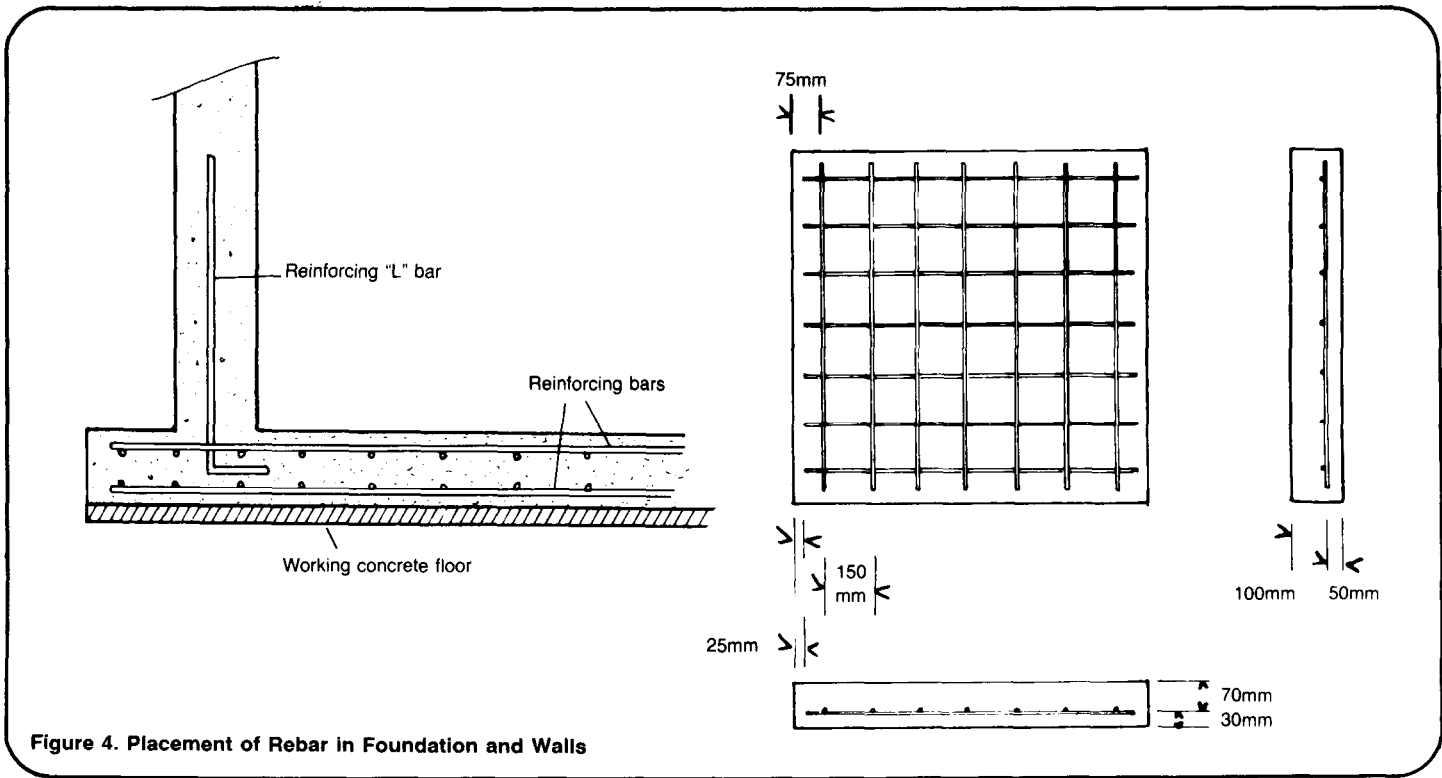

Figure 4. Placement of Rebar in Foundation and Walls
- Place reinforcing rods in the forms. For best results, lay the rod for the floor in a grid pattern as shown in Figure 4. The cross bars should be long enough to cross the entire length of width of the floor and extend at least 300mm into the wall. The reinforcing rods should be bent to fit into the wall forms to a height of 300mm. Other lengths of rod are then tied with these lengths to complete the installation of the reinforcing rod.
This technique is recommended to provide a solid connection between the wall and the floor. Figure 4 demonstrates the placement of reinforcing bars in concrete. The steel bars should be separated 150mm with the first cross bar laid 75mm from the edge of the pour. The bars should be placed one third of the distance from the outside or, as in the example given, about 70mm in from the outside edge.